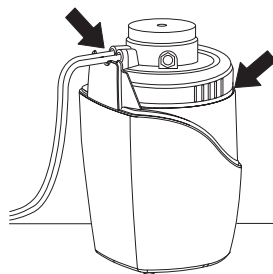

Fig. 46
16. **Check** for any signs of leakage (Fig. 46). Refer to Troubleshooting, p. 7.